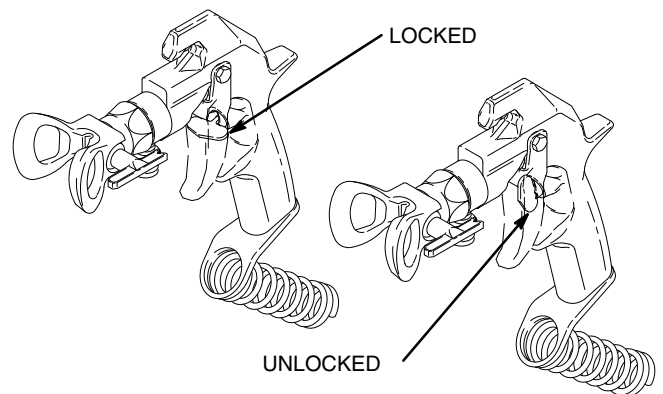

Fig. 1
1. To lock the gun trigger safety, turn the latch (A) to a right angle with the gun body. See Fig. 1.
2. To unlock the gun trigger safety, push the latch (A) out and turn it parallel with the gun body.
3. **Relieve the pressure.** Be sure the gun trigger safety is locked. See Fig. 1.